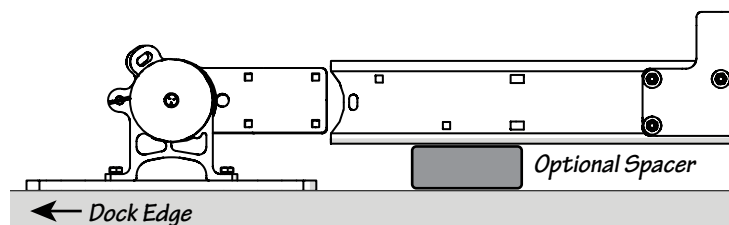

Fig. 7-2
- Before attaching the ladder to the base it maybe helpful to place a block of wood under the Nauti Dock Ladder as shown in Fig. 7-2.